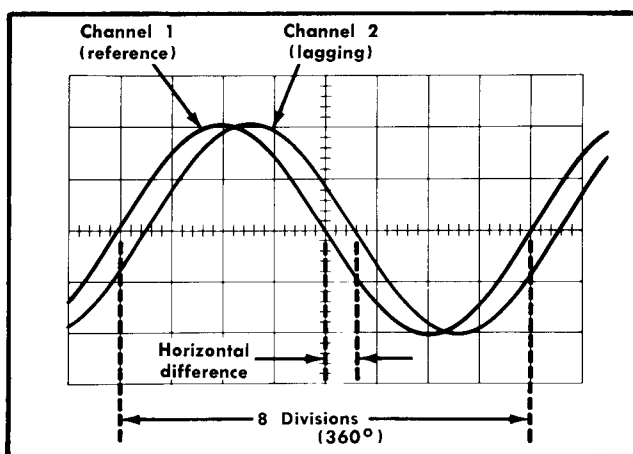
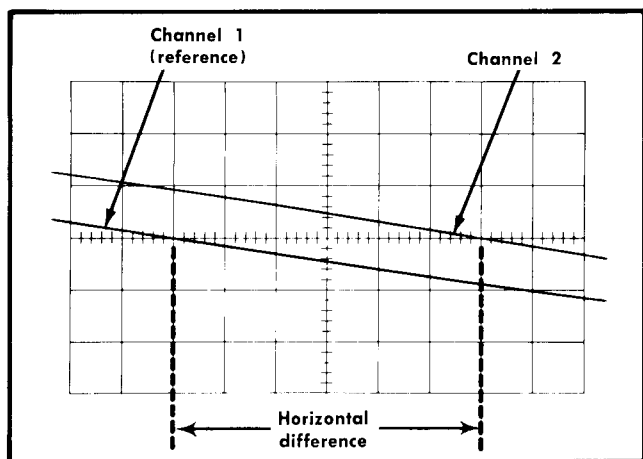

Fig. 2-28. Measuring phase difference.
Fig. 2-29. High resolution phase-difference measurement with increased sweep rate.
10. Turn the A VARIABLE control until one cycle of the reference signal (Channel 1) occupies exactly eight divisions between the first and ninth graticule lines (see Fig. 2-28). Each division of the graticule represents 45° of the cycle ($360^\circ \div 8 \text{ divisions} = 45^\circ/\text{division}$). The sweep rate can be stated in terms of degrees as 45°/division.
Example. Assume a horizontal difference of 0.6 divisions with a sweep rate of 45°/division as shown in Fig. 2-28.
Example. If the sweep rate were increased 10 times with the magnifier, the magnified sweep rate would be $45^\circ \div 10 = 4.5^\circ/\text{division}$. Fig. 2-29 shows the same signals as used in Fig. 2-28 but with the MAG switch set to $\times 10$. With a horizontal difference of 6 divisions, the phase difference is:
2. Connect a signal similar to the unwanted portion of the Channel 1 signal to the INPUT CH 2 connector. For example, in Fig. 2-28 a line frequency signal is connected to Channel 2 to cancel out the line-frequency component of the Channel 1 signal.